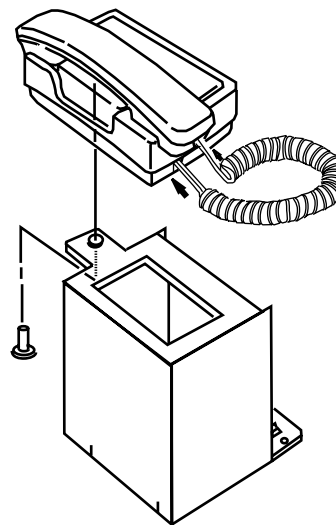

Fig. C.3.4
- (5) After installing the cradle assembly to the telephone set, fix the screw like Fig. C.3.4.